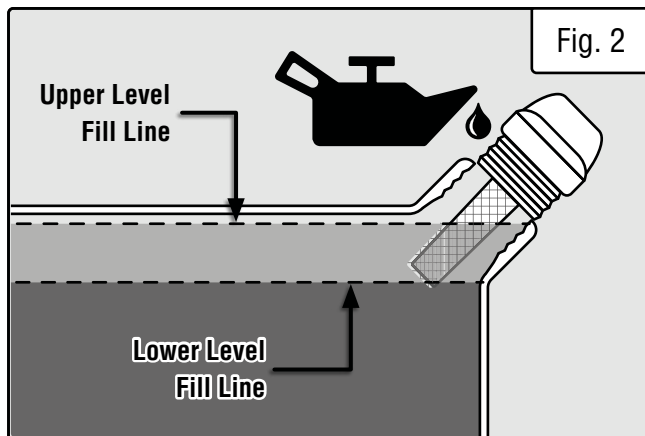

Fig. 2
3. Using an oil funnel or appropriate dispenser, slowly add oil into the oil fill, being careful not to overfill the unit. Fill the crankcase until you can see the oil coming halfway up the oil fill threads (Fig. 2).